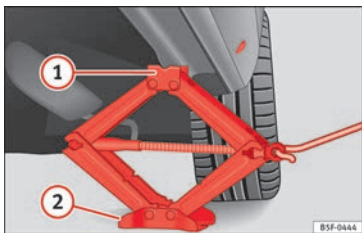

Fig. 86 Fitting the jack.
• Turn the jack* crank handle, located below the strut support point, to raise it until the tab ① » » » Fig. 86 is below the housing provided.
• Align the jack* so that tab ① “grips” onto the housing provided on the strut and the mobile base ② is resting on the ground. The base plate ② should fall vertically with respect to the support point ①.